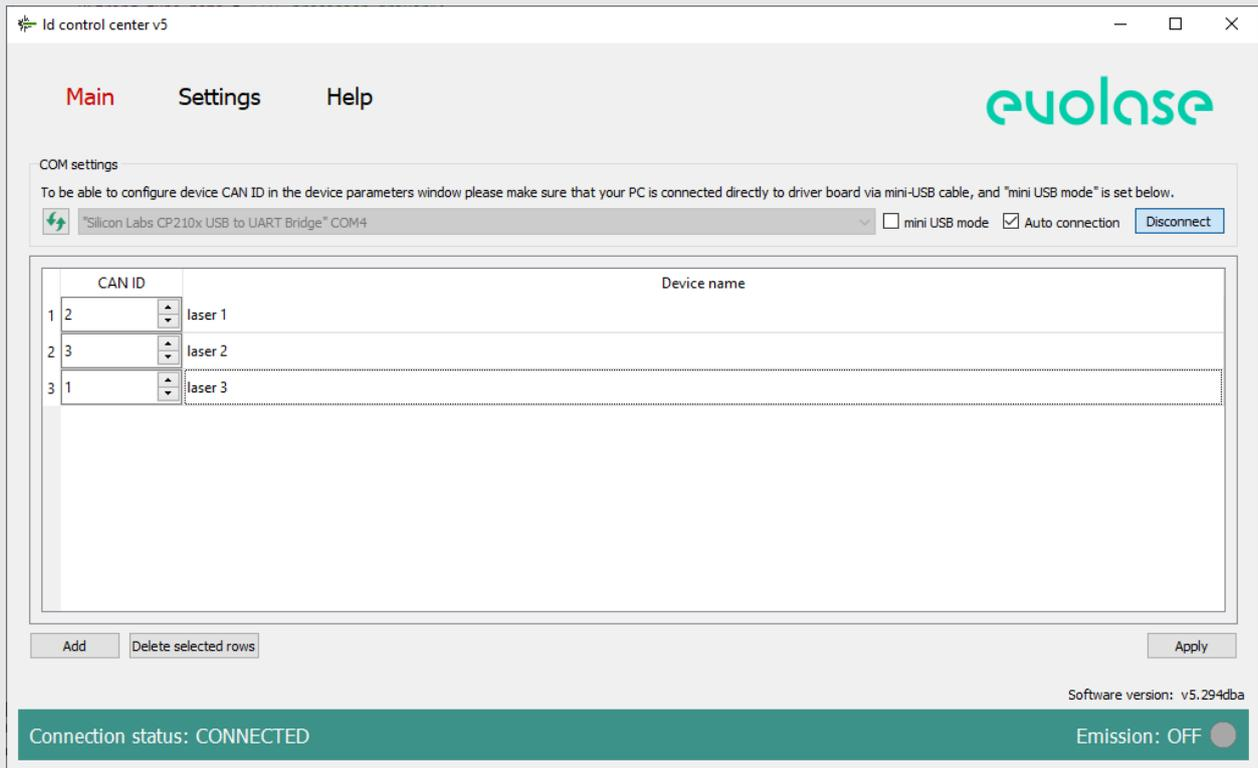

Figure 6: The system configuration menu.
3. Click “Settings” to enter the program configuration menu (fig. 6).